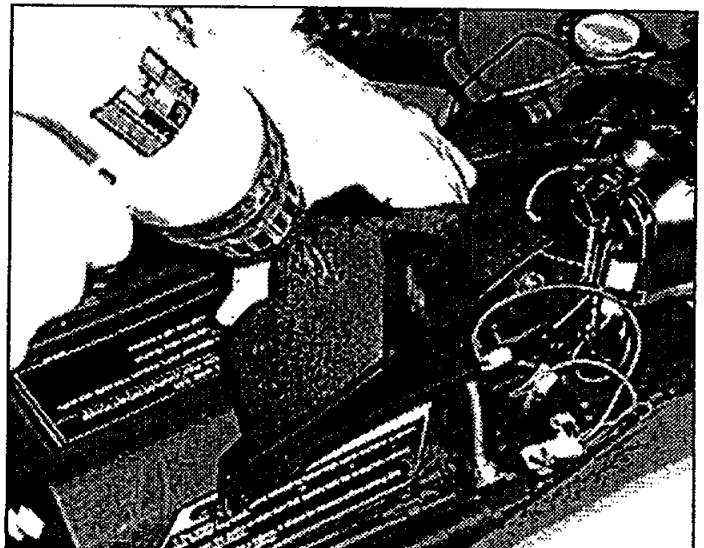

Figure 2
*Step 3.* Mounting the toggle switch and the indicator LED. Choose a location where there is ample space behind and to the front of where the toggle switch and indicator LED are to be mounted. The indicator LED is best mounted about 1" down from the center of the toggle switch. Mark the spot to be drilled for the toggle switch. Wearing safety glasses, carefully drill a 7/16" hole (a 1/8" pilot hole may be used) (Fig.2). Push the toggle switch with supplied spacer nut through the hole. Mount the toggle switch by adjusting the toggle nut on the switch threads so that about 1/8" of the toggle threads protrude through the front. The supplied toggle boot can now be installed and the nut on the toggle boot can be tightened with a 5/8" wrench while holding the switch body. (Fig.3)